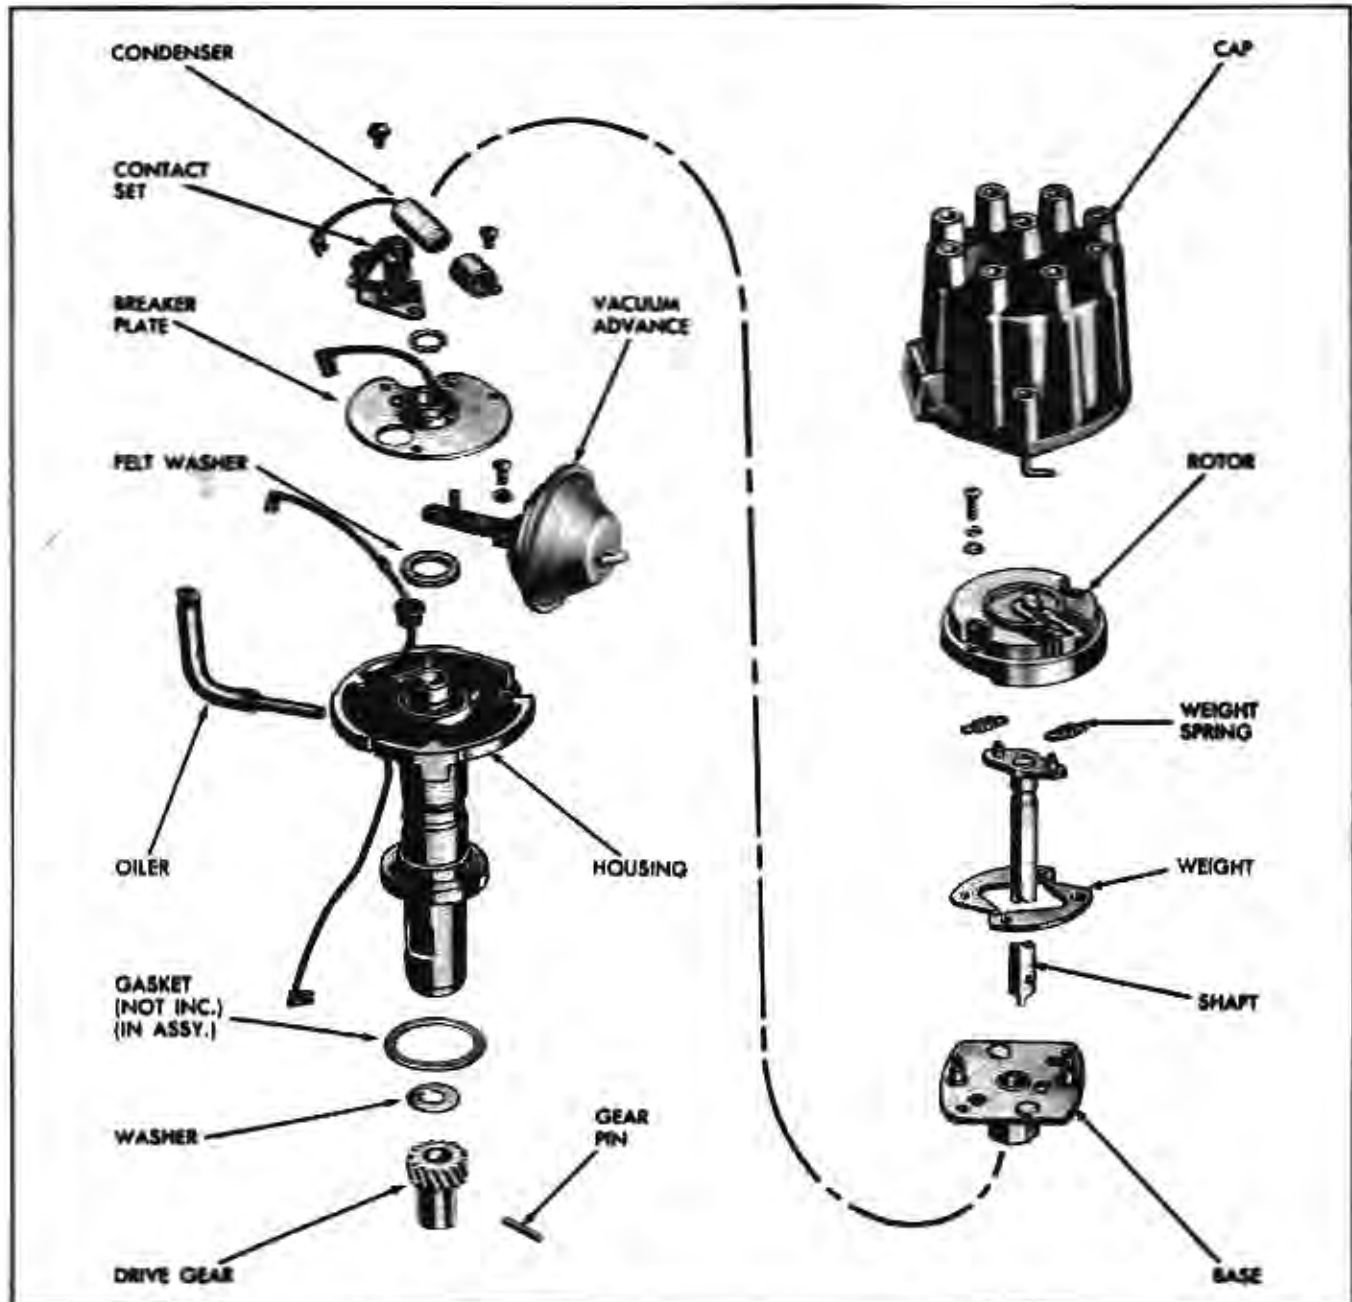

Fig. 11-61 Distributor Assembly—Exploded View
1. Remove the rotor by removing the two attaching screws, lock washers, and flat washers (Fig. 11-61).